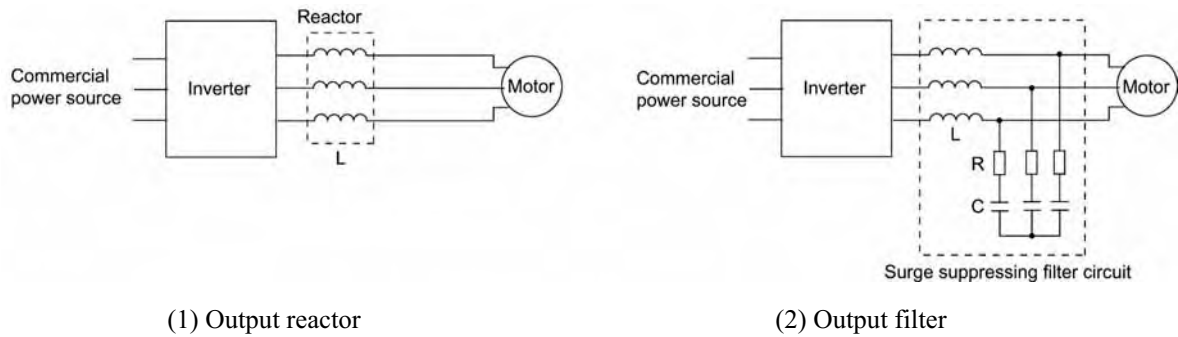

Figure C.3 Method to Suppress Surge Voltage
(1) Output reactor
If wiring length is relatively short the surge voltages can be suppressed by reducing the voltage rise time (dv/dt) with the installation of an AC reactor on the output side of the inverter. (Refer to Figure C.3 (1).)
(2) Output filter
Installing a filter on the output side of the inverter allows a peak value of the motor terminal voltage to be reduced. (Refer to Figure C.3 (2).)